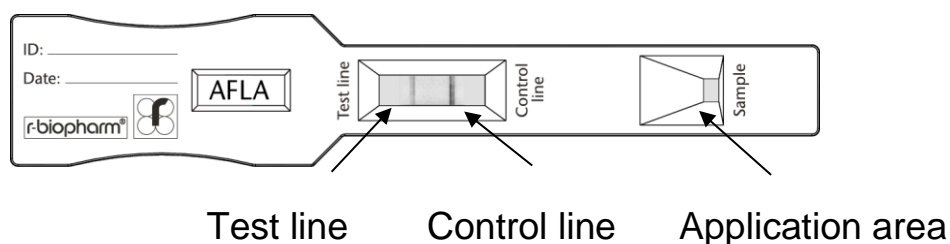

Fig. 1: RIDA®QUICK Aflatoxin RQS test strip.
- Apply 100 µL of prepared sample solution (particle-free solution or dilution I, see 8. Sample preparation) to the application area of the test strip (see Fig. 1).
The left line in the reaction area is the test band (test line, see Fig. 1). Its appearance and intensity depends on the aflatoxin concentration of the sample. The sample is contaminated with aflatoxin, if the control band (control line) is visible and the test band (test line) is visible.